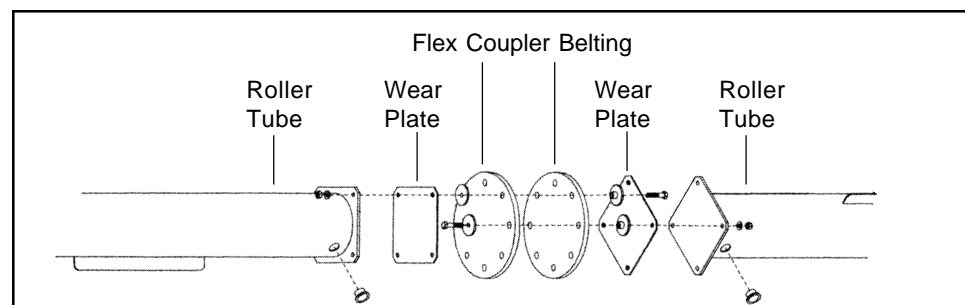

Figure 4.3: Replacing Flex Coupler
2. Remove the 3/8 inch nuts that secure the roller tubes and coupler. Separate tubes and remove existing coupler (see figure 4.3).